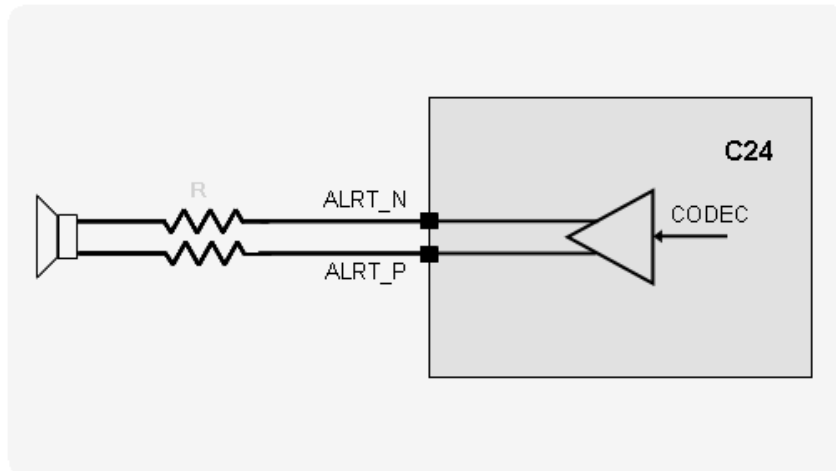

Figure 2-19: Differential Loudspeaker Circuit
Figure 2-19 shows the alert loudspeaker circuit and Table 2-9 gives the loudspeaker specifications.
**Important:** For safety regulations it is important to place series resistors on the alert output lines, as illustrated in Figure 2-19. The resistors value should be  $R = 0\Omega$  at the design stage, but may be changed to a different value during audio safety testing, in case that alert level limitation is required.